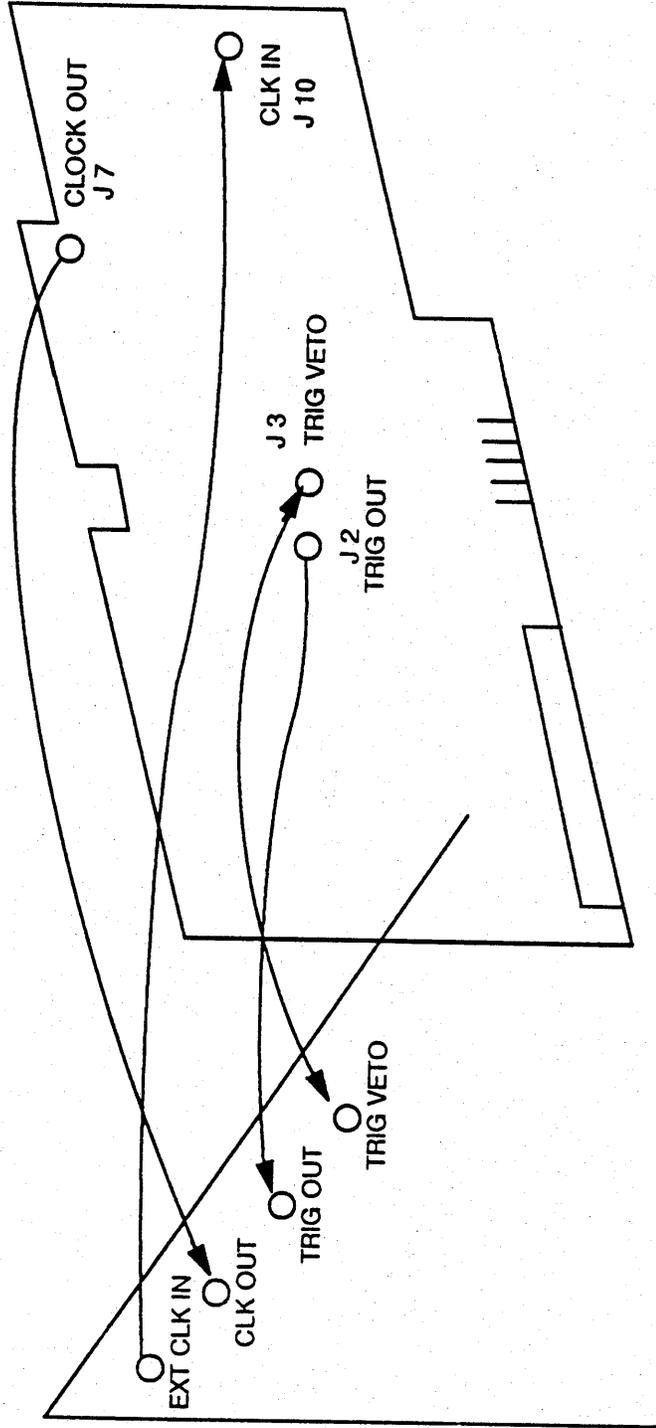

Figure 4.4
The 9424 is equipped with the trigger OUT, trigger VETO, clock IN and clock OUT options. Disconnect the four SMD cables from the TDC board, connectors J2, J3, J7 and J10 (see figure 4.4: cabling diagram). Now the F9420-4 can be removed vertically from the F9424-1 base board (13) and the F9424-7 front end (14).